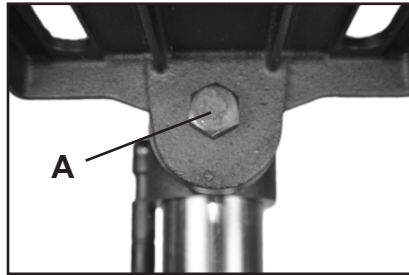
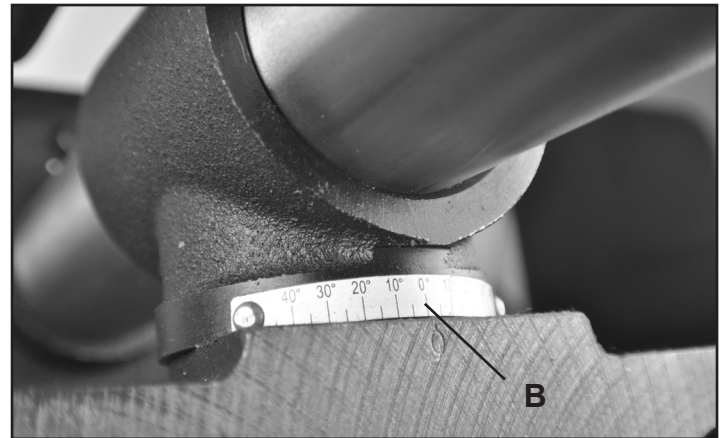

FIG. 8
FIG. 9
9. **TABLE TILT:** The drill press table will tilt 0-45 degrees left and right. To tilt, loosen the nut located under the table (FIG. 8, A). Align the "zero" mark on the table (FIG. 9, B) to the desired degree marking on the scale. Tighten the nut under the table to retain the adjustment.